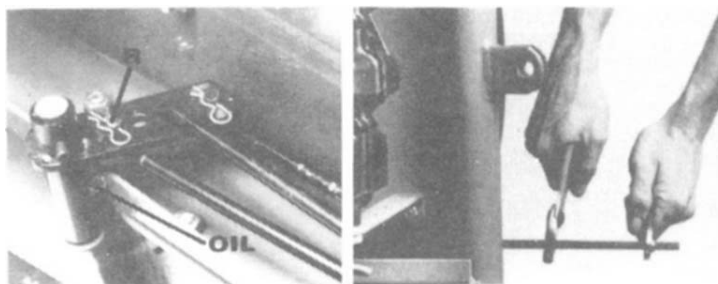

Fig. 15
- Clutch/brake pedal pivot; See Fig.15
1. Remove (R) clip from pedal pivot. See Fig. 15.